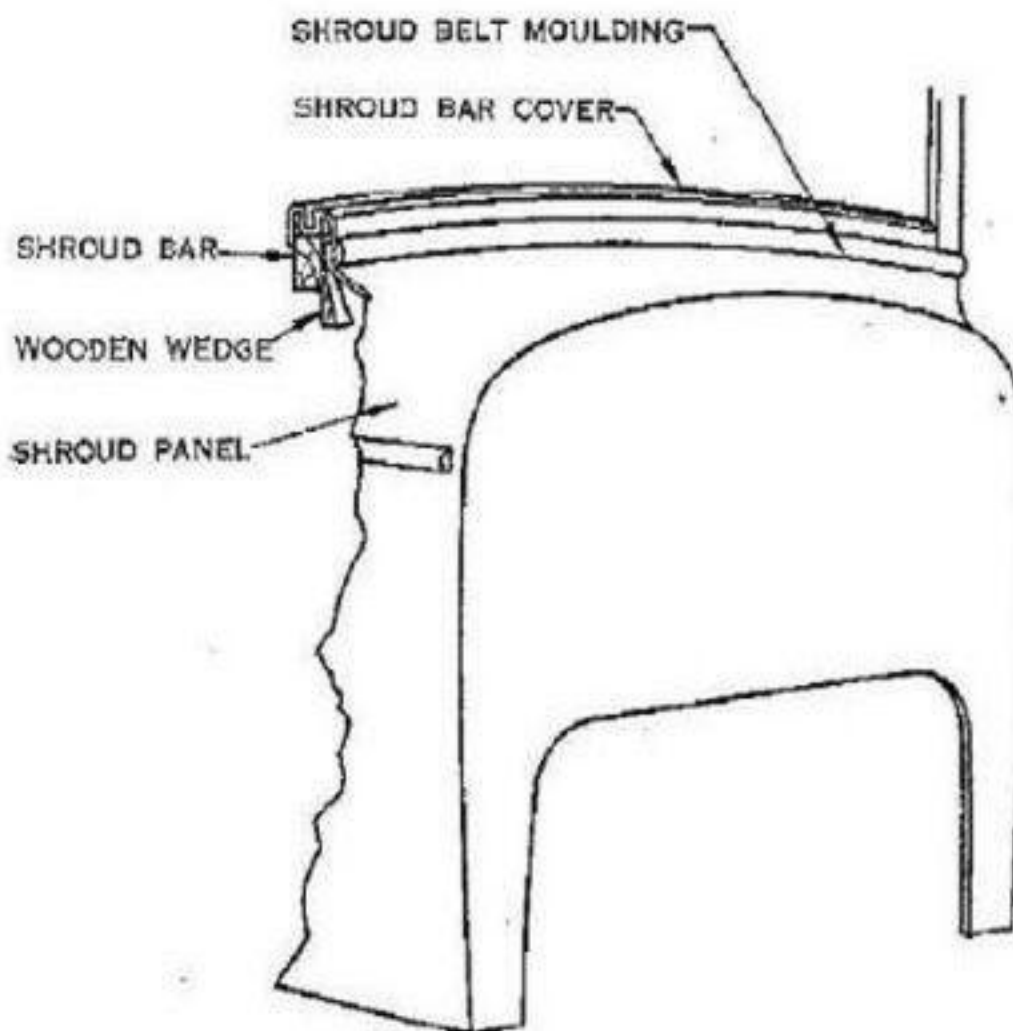

Fig. 1
Across the top of the shroud, below the windshield, is a shroud bar which is jointed, glued and screwed to the two front pillar posts. Over the shroud bar is the shroud bar cover which overlays and is nailed through the top flange of the shroud top panel. This joint is covered with a shroud belt moulding. The shroud bar cover and shroud panel as well as shroud belt moulding are nailed to the front of the shroud bar. (See Fig. 1.)
1. Make a soft wood wedge, dip the point in R. M. Compound, and drive the wedge in at front of shroud bar, between the shroud bar and the shroud flange where squeak may occur. (See Fig. 1.) (Note form of wedge.)